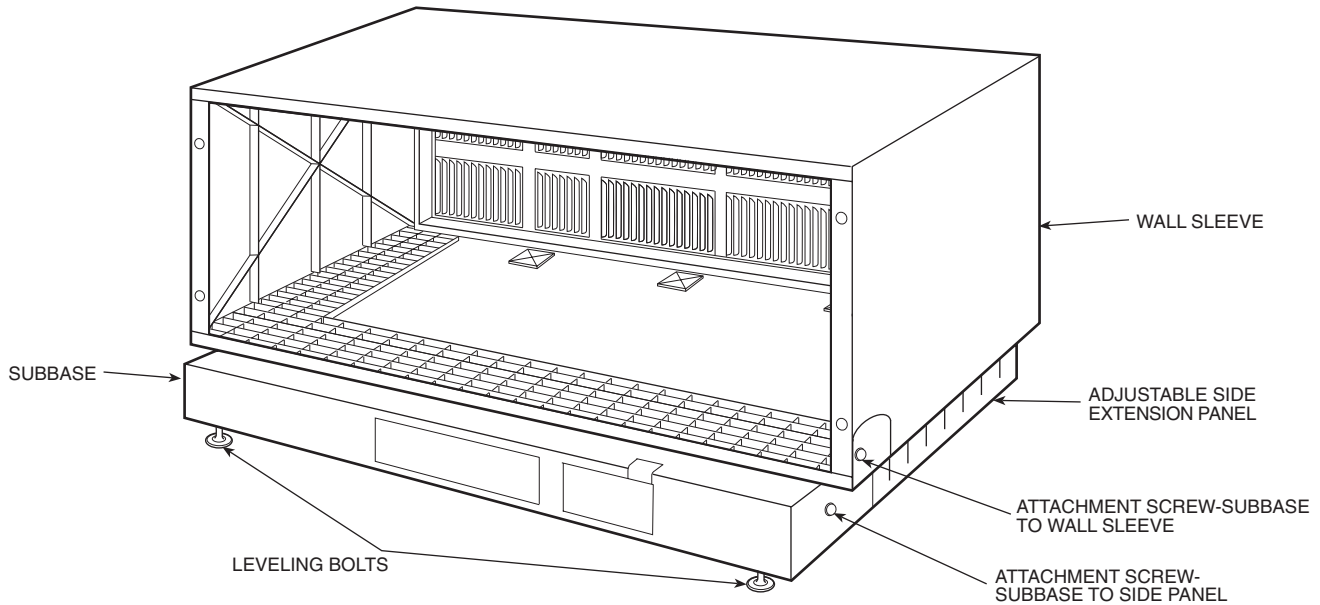

Fig. 4 — Completed Subbase Assembly
Step 5 — Level subbase flush with floor by adjusting leveling bolts beneath each end of subbase. See Fig. 4 for completed subbase assembly.